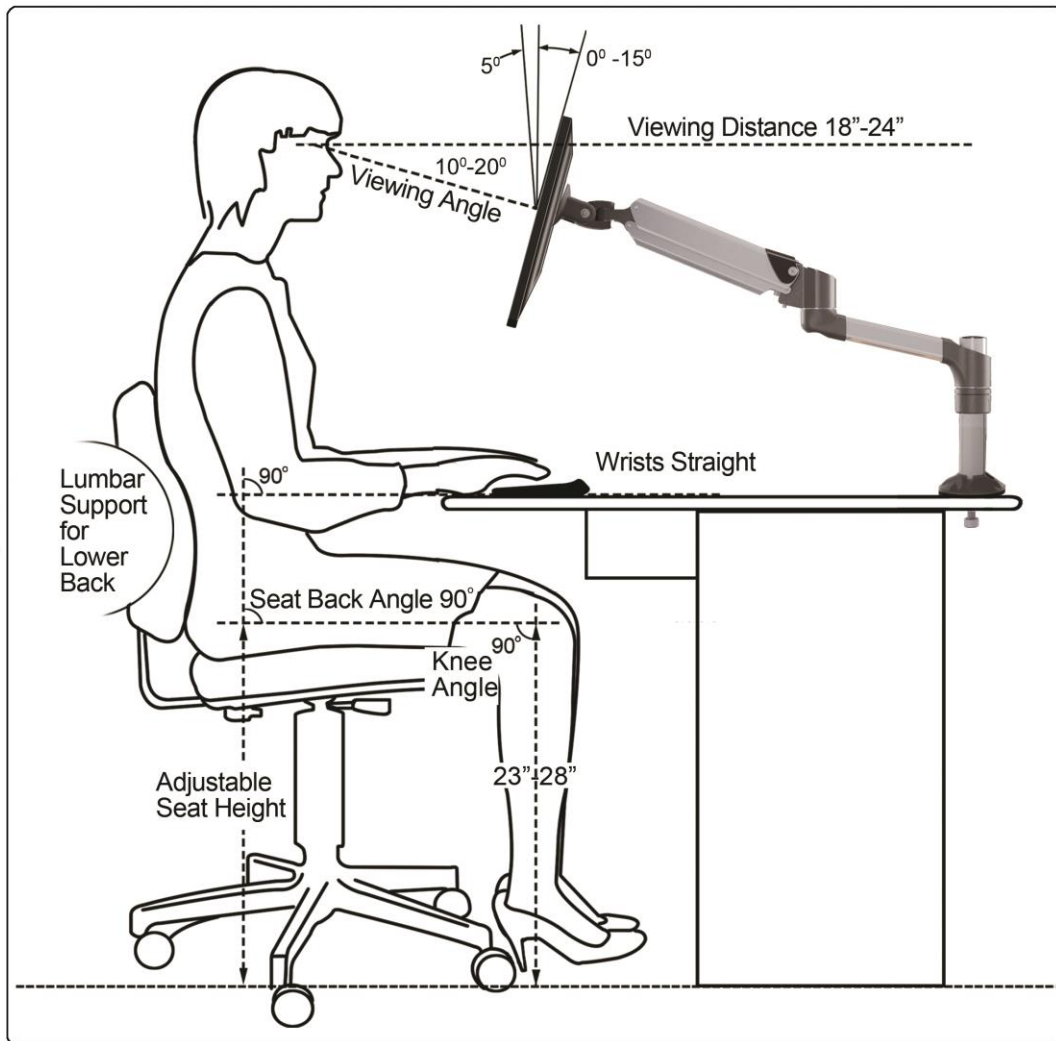

Figure 6-2
2. Agronomists recommend that the proper screen position should be slightly below eye level. The suggested viewing angle should be approximately 10-20° downward onto the center of the screen. The lumbar (bottom five vertebrate in the spine) needs to be supported to decrease disc pressure. Using a chair that provides lumbar support is critical in preventing excessive pressure on the lower back. The proper ergonomic seating position requires the wrists to be straight and a 90° seat and knee angle. To reduce reflection on your screen, tilt the monitor forward or backwards 5 to 15° (See Figure 6-2).